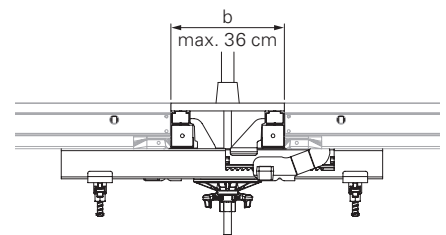

Fig. B7.02b
- When anchoring, ensure that the tie forces are transferred centrally through the Compensation Waler-4 MAR 85 (**33**) to the adjacent panels. (Fig. B7.02b)